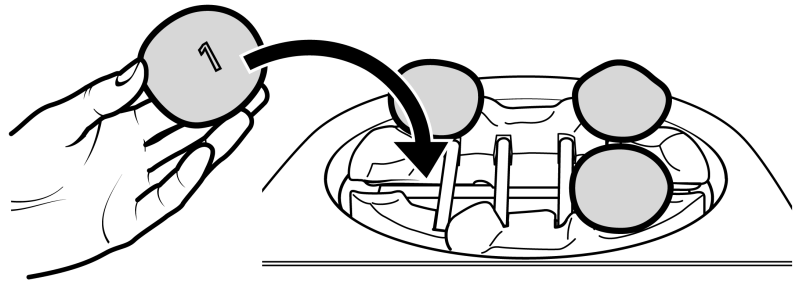

Figure 8 Pebble number '1' Location
5. There are four pebbles numbered '1' on the underside. Locate these onto the pebble base at the ends of the outer left and right hand ceramic support rods (See figure 8).